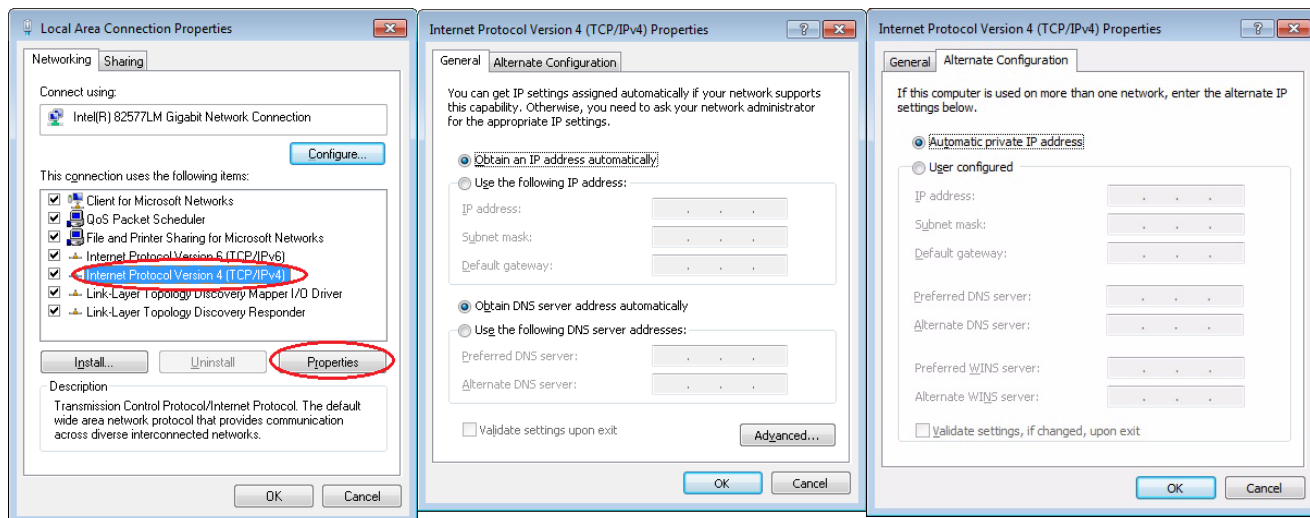

Figure 6. Configuration of Ethernet connection
2. Use the automatic IP configuration in your wired adapter local area connection setting window as shown in Figure 6.